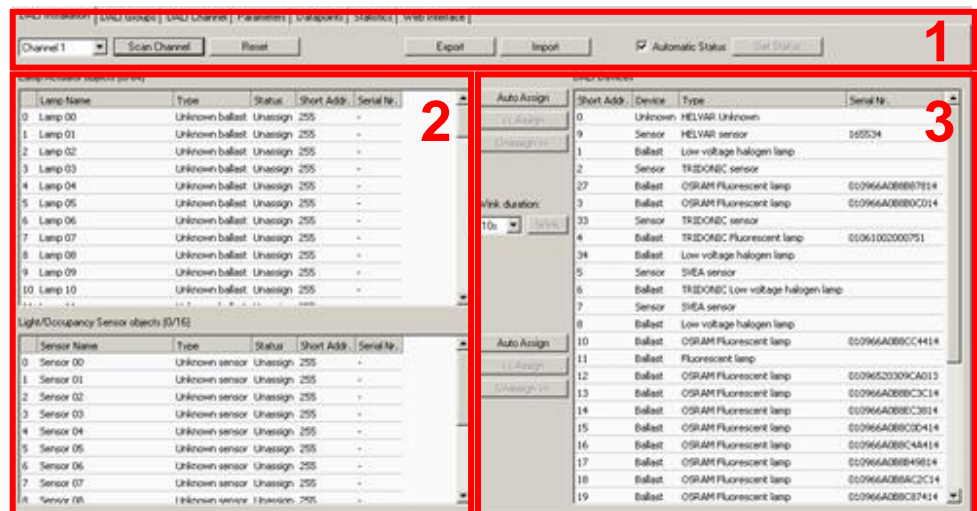
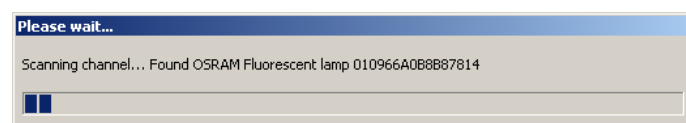

Figure 105: DALI Installation tab.
Figure 106: DALI channel scan progress.
The DALI Installation tab is shown in Figure 105. It is used to scan a DALI channel and assign DALI devices to Lamp Actuator and Light/Occupancy Sensor objects. The dialog is divided into three sections:
- The channel selection and functions section (number 1 in Figure 105).
- The DALI network database with the device assignment (number 2 in Figure 105).
- The DALI network scan results (number 3 in Figure 105).
- The **Scan Channel** button starts a scan of the DALI channel. When pressing the button a window showing the scan progress will be shown (see Figure 106). After the scan the devices found will be listed in the DALI network scan results section (number 3 in Figure 105) of the DALI Installation tab.